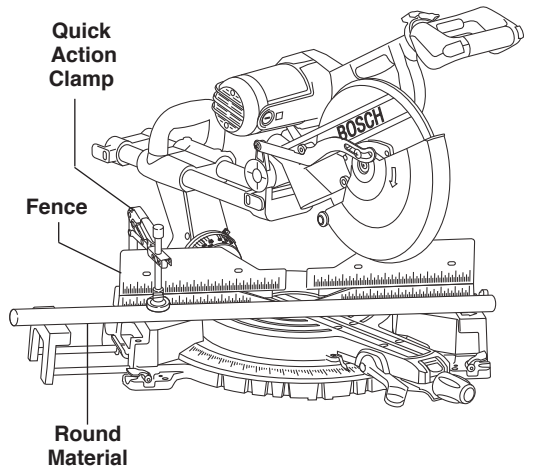

Figure 42. Round Material
**⚠ WARNING** For round material such as dowel rods or tubing, always use a clamp or a fixture designed to clamp the workpiece firmly against the fence and table. Rods have a tendency to roll while being cut, causing the blade to “bite” and pull the work with your hand into the blade (Figure 42).